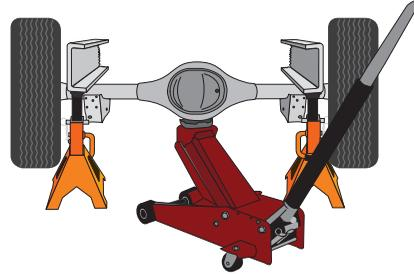

fig. 2
1. Raise the vehicle and support it in a way, using jack stands or equivalent, so that the axle can be safely dropped away from the frame. This needs to be done in order for the air spring assembly to be put into position between the axle and frame (Fig. 2).